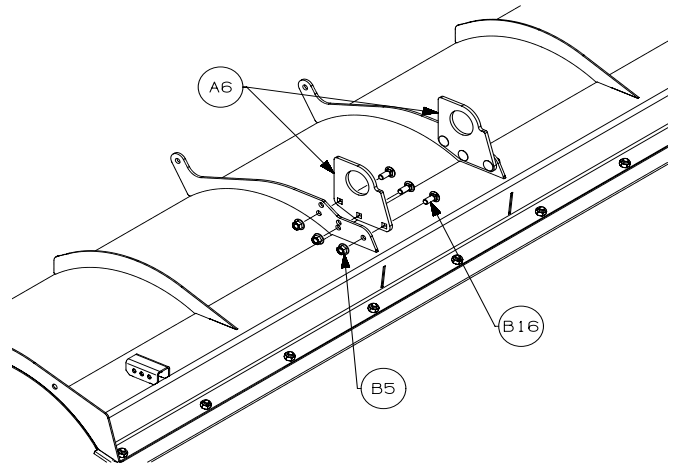

Figure 1
2. Use fasteners to secure (B5, B16). Tighten fasteners to torque specification listed. See Figure 1.